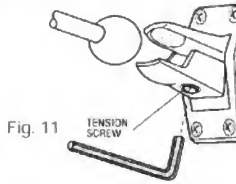

Fig. 11
5.2-Now, insert the short end of the hex wrench. Start tightening the hex tension screw. (See Fig. 11)